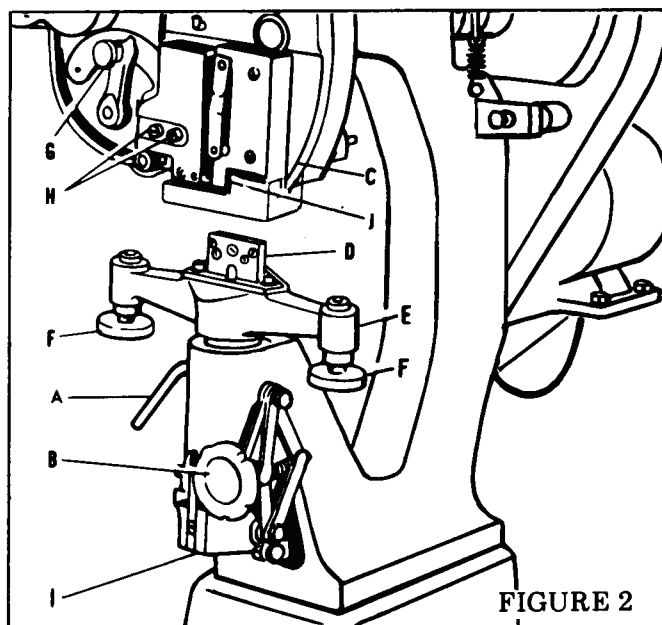

FIGURE 2
Adjust Wire Straightener: To make sure that the wire will enter the mandrel (Index J, figure 2) properly, it may be necessary to adjust the wire straightener (Figure 1a). See Adjustment section, Page 16.
6. To increase or decrease the leg length of the stitches, loosen the screw of the wire feed index lever (Index G, figure 2) and the two screws of the cutter block (Index H, figure 2). Move the wire feed index lever to the right (or next higher number) for more leg length — to the left (or next lower number) for less leg length. Tighten screws of index lever and cutter block. Repeat step 5.